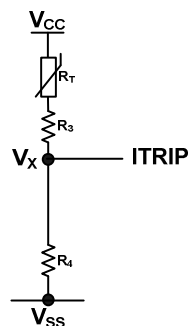

Figure 10: Programming over-temperature protection
The ITRIP input of the IRS233(0,2)(D) can also be used to detect over-temperature events in the system and initiate a shutdown of the HVIC (and power switches) at that time. In order to use this functionality, the circuit designer will need to design the resistor network as shown in Figure 10 and select the maximum allowable temperature.